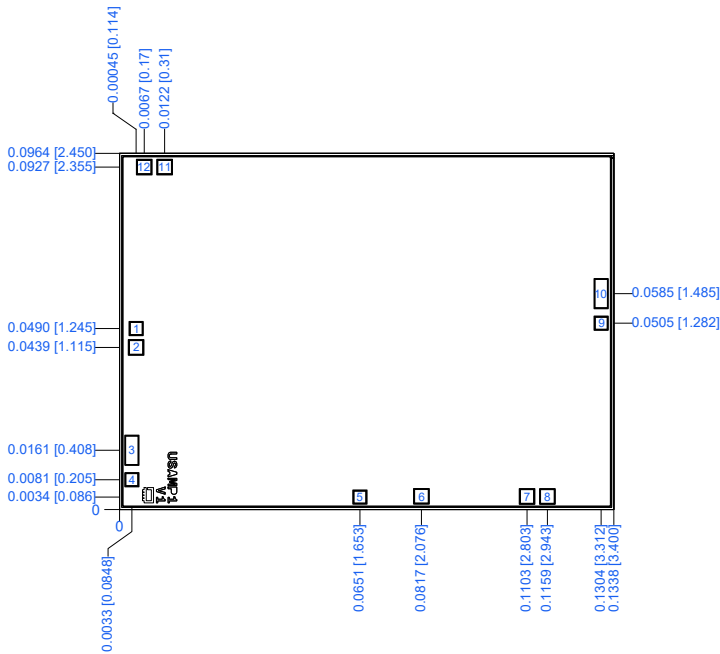

Figure 2. PMA5-83-2W-D+ Outline Drawing.
1. Tested on Mini-Circuits Die Characterization Test Board. See Figure 2. De-embedded to the device reference plane.
Refer to the table in Figure 2 for more details on the passive components.